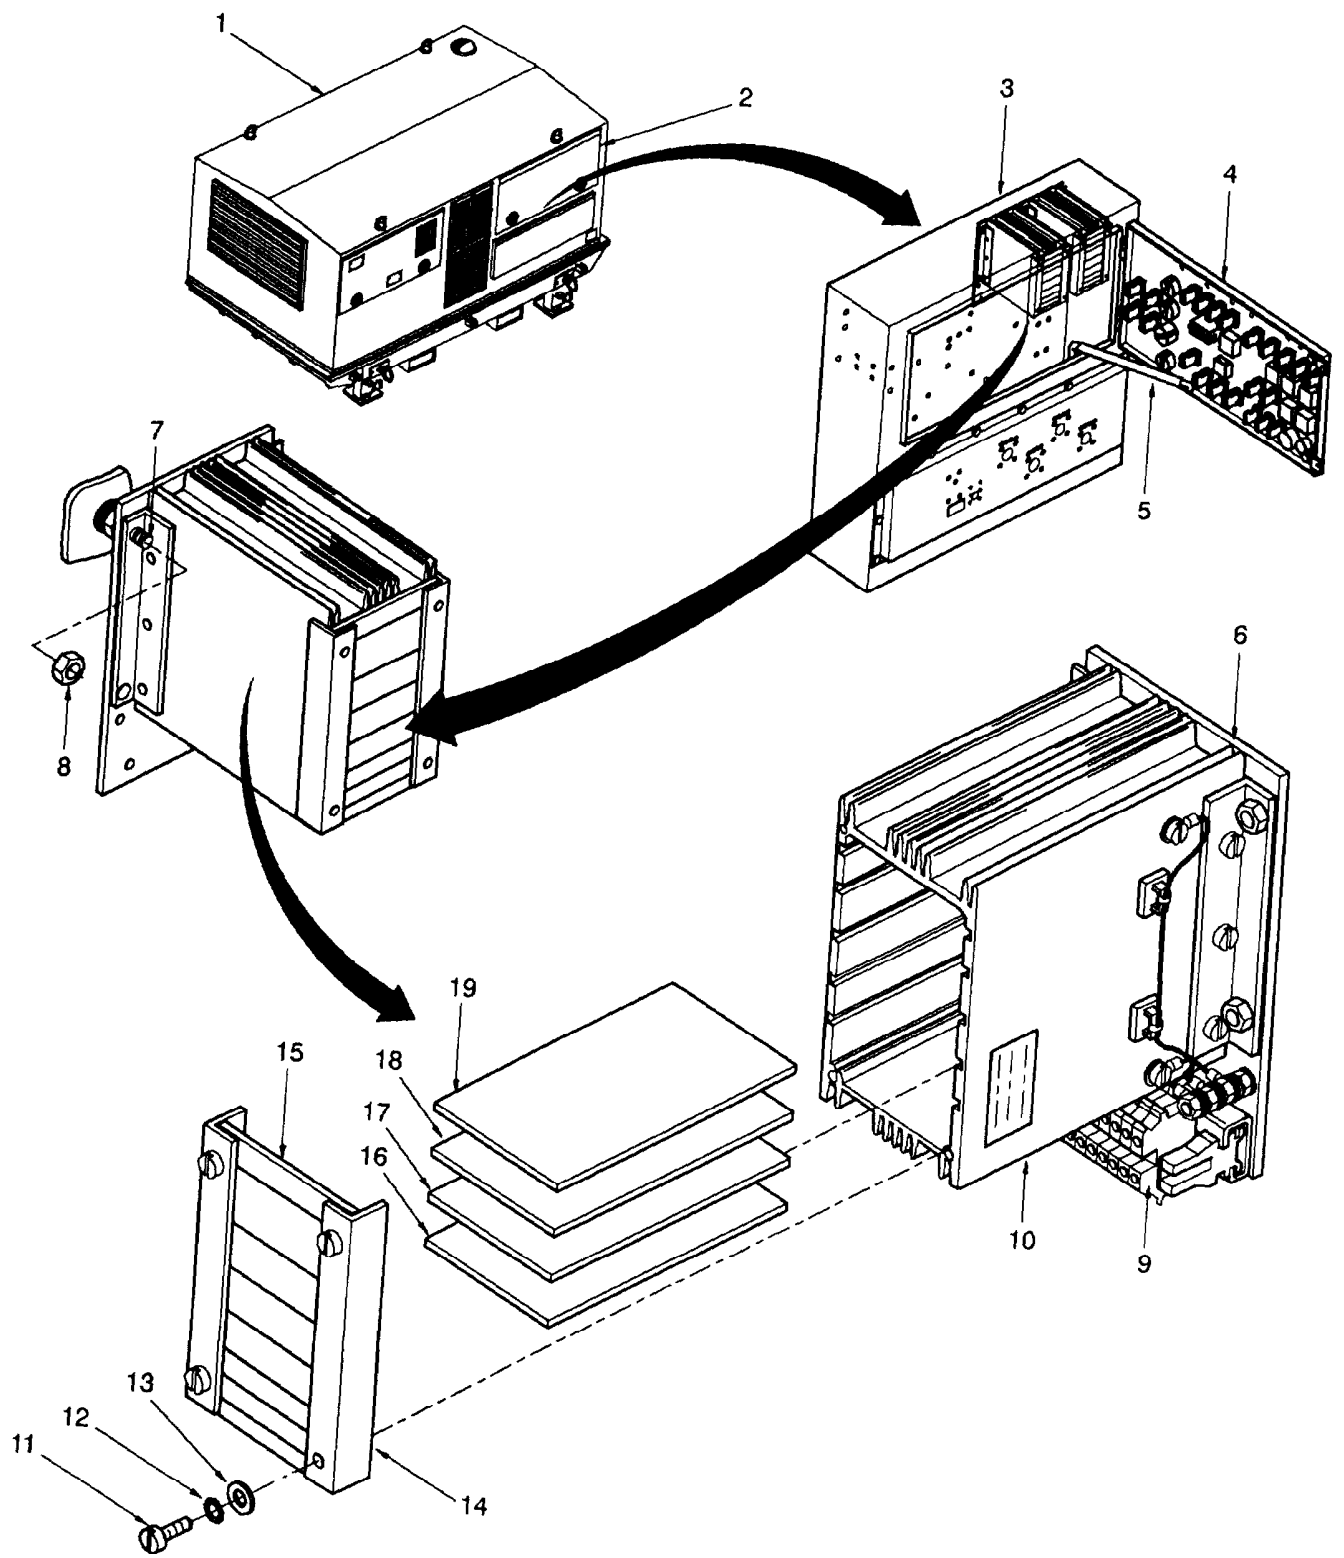

Figure 5-29 Control Cabinet Assembly Voltage Regulator N2 Maintenance.
1. Open flap (2, figure 5-29) on unit hood assembly (1).
2. Open front panel (4) on control cabinet assembly (3) and secure with prop (5).